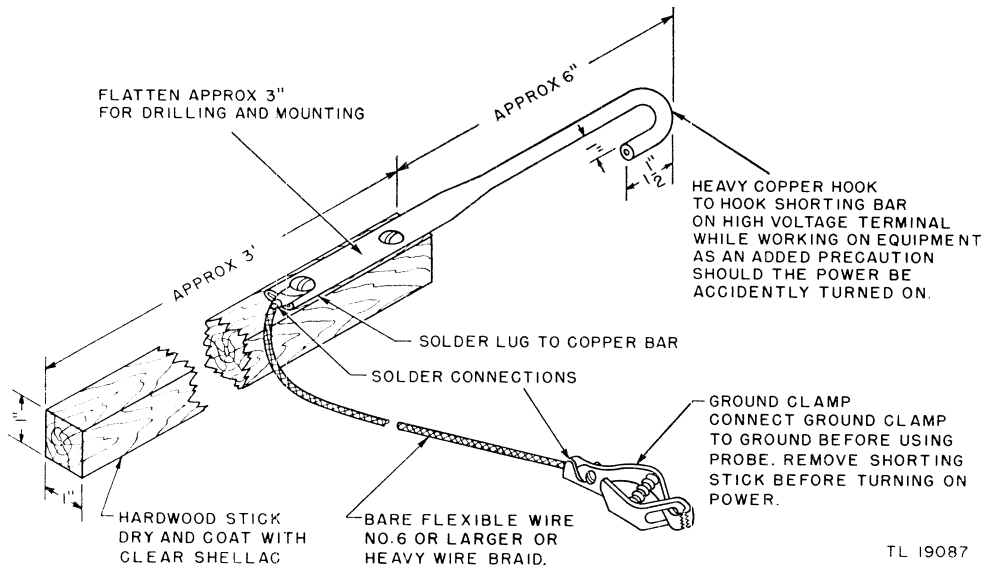

Figure 47. Construction of shorting stick.
a. To construct a safety shorting stick (fig. 47), secure a dry piece of wood or some other material which is a good electrical insulator. It should be about 36 inches long and about 1 inch square. The latter dimension is not very important. Securely fasten a piece of copper or brass rod (or thin tubing) to one end of the stick in such a manner that the rod extends 12 inches beyond the end of the stick. The free end of the rod should be bent in the form of a small hook. Solder a piece of heavy flexible hook-up wire about 18 inches long to the metal rod at the point where it is fastened to the stick. Attach a heavy clip to the free end of the wire.